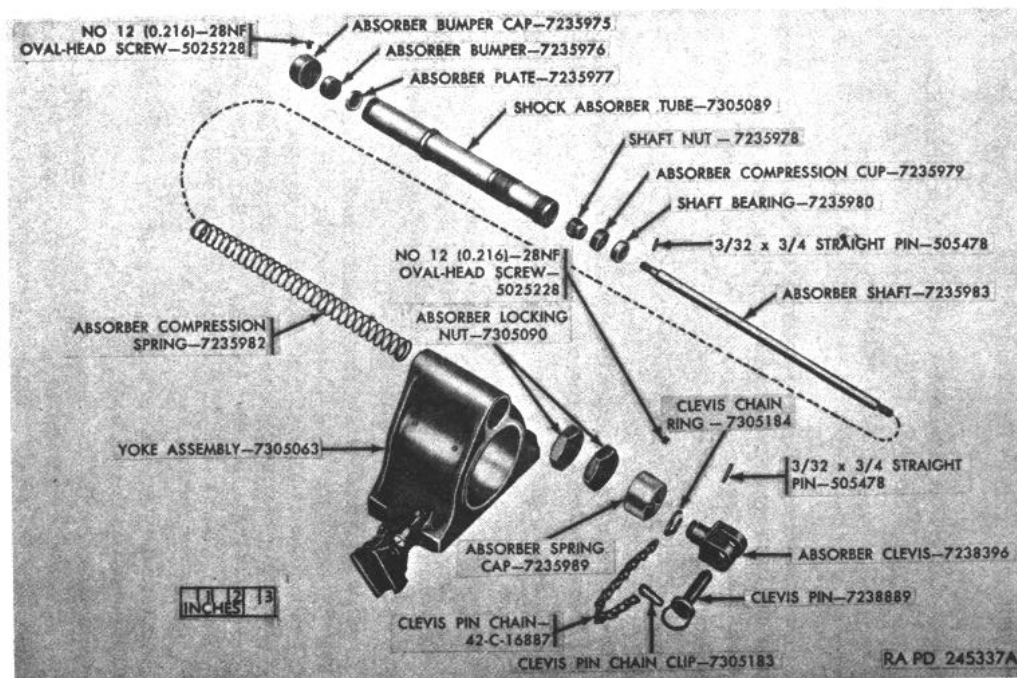

Figure 49. Shock absorber assembly 7305092---81-mm mortar mount M23A1--- exploded view.
a. Unscrew oval-head screw from shock absorber spring cap and unscrew cap from rear of shock absorber tube (fig. 49).
b. Withdraw shock absorber shaft (fig. 49), with assembled parts from tube.
c. Drive out straight pin which secures shock absorber clevis to shock absorber shaft and unscrew clevis (fig. 49) with assembled parts from the shaft, taking care to release spring slowly so that it will not throw the shock absorber clevis and spring cap rearward.
d. Remove clevis pin, with chain, clip, and ring from absorber clevis (fig. 49).
e. Remove shock absorber compression spring from absorber shaft (fig. 49). Drive out straight pin which retains shaft nut on shaft, unscrew shaft nut, and remove shock absorber compression cup and shaft bearing from shaft (fig. 49).
f. Unscrew oval-head screw from shock absorber bumper cap and unscrew cap from shock absorber tube (fig. 49). Shock absorber bumper and shock absorber plate may be removed together with bumper cap because suction created in bumper causes it to cling to cap and plate. A slight twisting force will separate these parts. Should bumper and plate remain in tube after cap is removed, use shaft to remove them.
g. Unscrew absorber locking nut from shock absorber tube and withdraw tube from yoke assembly (fig. 49).
- b. Pass shock absorber tube (adjacent threaded sections leading), through upper hole of yoke assembly (fig. 49), from front face, until external shoulder of tube contacts yoke body. Screw shock absorber locking nuts (fig. 49) over first threaded section of tube until locked tightly.
- c. Insert shock absorber plate into shock absorber tube, through front end, seating it solidly against internal shoulder, follow with shock absorber bumper (fig. 49), and press firmly against plate so that end of tube and bumper are flush. Screw shock absorber
bumper cap (fig. 49) on tube threads. Aline screw holes and screw in No. 12 (0.216)-28NF oval-head screw (fig. 49).
d. Slide shaft bearing on shock absorber shaft, from drilled end, follow with shock absorber compression cup, base first, screw shaft nut on shock absorber shaft, aline holes, and drive in 3/32 x 3/4 straight pin (fig. 49). Slide shock absorber compression spring on shaft (fig. 49).
e. Assemble clevis pin, with chain clip and ring, on absorber clevis (fig. 49).
f. Mount shock absorber spring cap on absorber shaft, compressing absorber compression spring, and screw shock absorber clevis (fig. 49) with assembled parts on absorber shaft. Aline holes in clevis and shaft and drive in 3/32 x 3/4 straight pin (fig. 49).
g. Insert absorber shaft with assembled parts into shock absorber tube (fig. 49), making certain that cup enters tube uncurled. (A blunt pointed tool may be used to insert lip of cup into tube.)
h. Screw absorber spring cap on shock absorber tube, aline screw holes, and screw in No. 12 (0.216)-28NF oval-head screw (fig. 49).